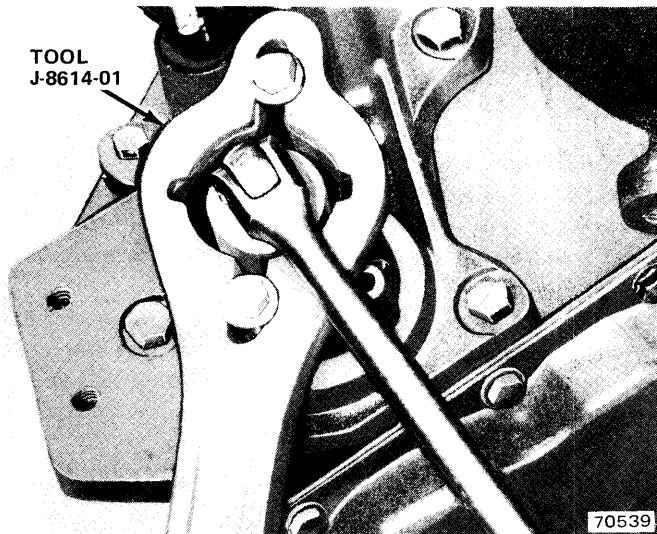

Fig. 8-8 Removing Front Output Shaft Nut
(1) Raise vehicle.
(2) Place support stand under transmission and remove rear crossmember.
(3) Disconnect front propeller shaft of transfer case yoke mark shaft and yoke for assembly reference.
(4) Remove transfer case yoke nut and washer using Tool J-8614-01 (fig. 8-8).
(3) Using Yoke Holding Wrench J-8614-01, remove yoke nut (fig. 8-8).